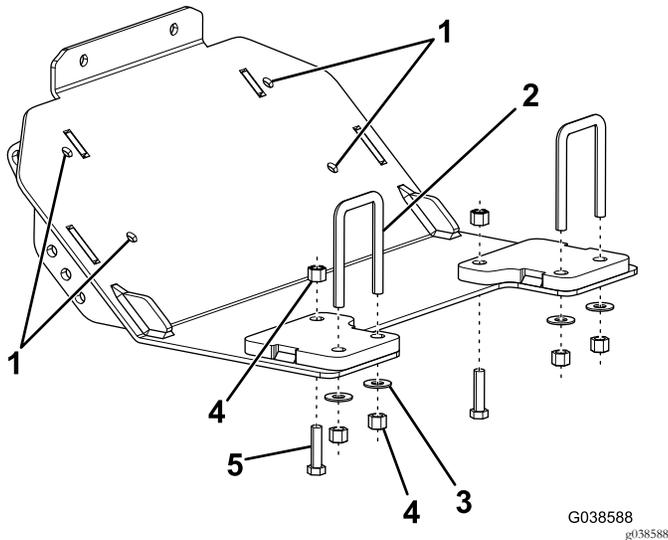

Figure 1
3. Secure the plow skid plate to the vehicle frame gusset using 2 bolts (3/8 inch) and 2 locknuts (3/8 inch) as shown in Figure 1.
4. Secure the back of the plow skid plate to the vehicle frame using 2 U-bolts, 4 washers, and 4 locknuts (3/8 inch) as shown in Figure 1.
5. Using the plow skid plate as a guide, drill out the 4 holes in the front bumper to 3/8 inch (Figure 1).